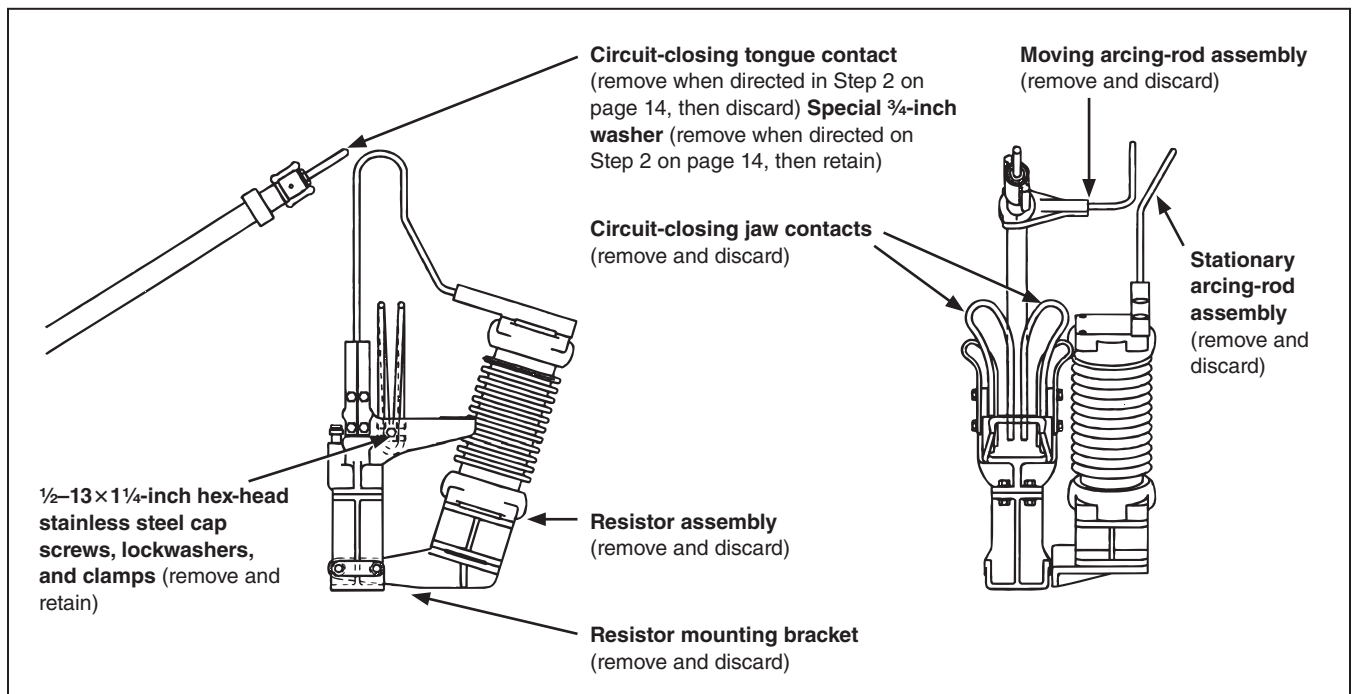

Figure 1. Removal of existing pre-insertion resistors on 34.5-kV through 69-kV vertical-break and integer-style circuit-switchers.
*For pre-insertion resistors on 34.5-kV through 69-kV vertical-break style and integer-style circuit-switchers, refer to Figure 1*
- STEP 2.** Remove the existing circuit-closing tongue contact and special  $\frac{3}{4}$ -inch washer from the end of the disconnect blade assembly. Discard the contact but retain the washer. See Figure 1 on page 5, Figure 4 on page 7, Figure 5 on page 8, or Figure 6 on page 8, as appropriate.